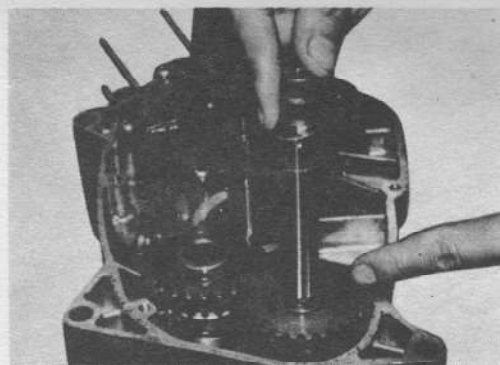

Fig. 3-51
1. The kick gear-related assembly can be removed by lifting out the kick shaft the way it was installed. Make sure not to lose the kick rollers when disassembling, or to misplace the washers when reassembling. (Fig. 3-51)